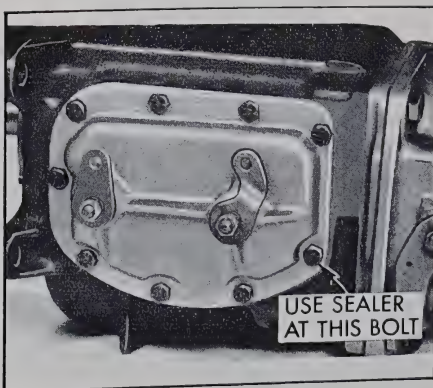

Figure 4-119—Transmission Side Cover Assembly
3. With transmission in neutral and shifter forks and levers in place, lower side cover into place. Install attaching bolts, using sealer and lower right bolt (see Figure 4-119), and tighten evenly.